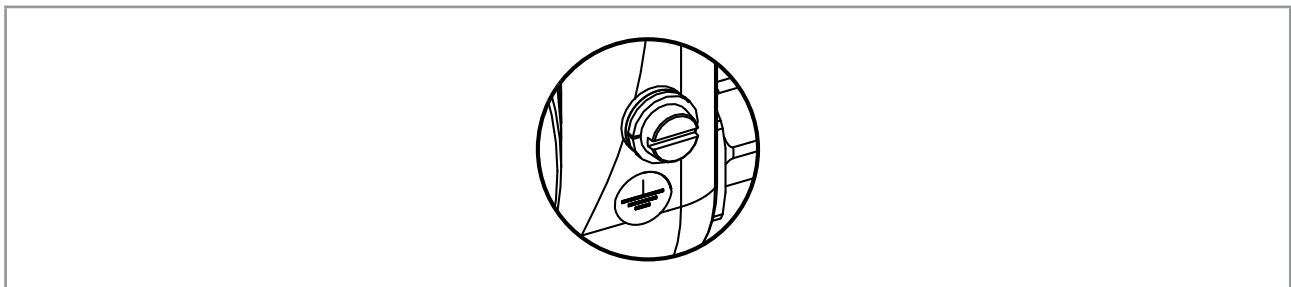

Fig. 38: Functional earth screw on the outer surface of the device
- Connect the functional earth conductor to the functional earth screw, see Fig. 38.